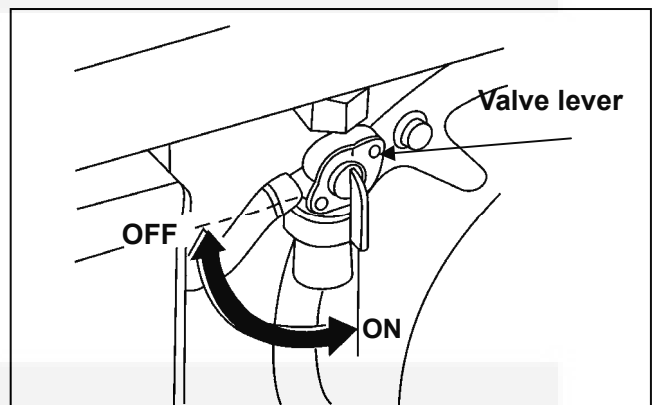

FIGURE 4. FUEL VALVE
1. Open the fuel valve (Figure 4).